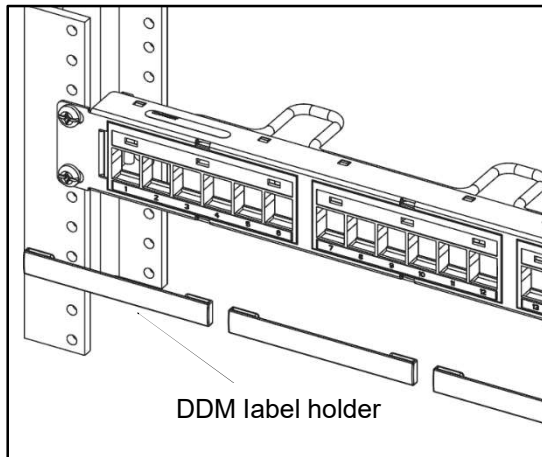

Figure 1
1. Enter information on the white information labels provided in label holder kits. Snap holders into panel modules and insert labels into label holders as shown in figure 1.